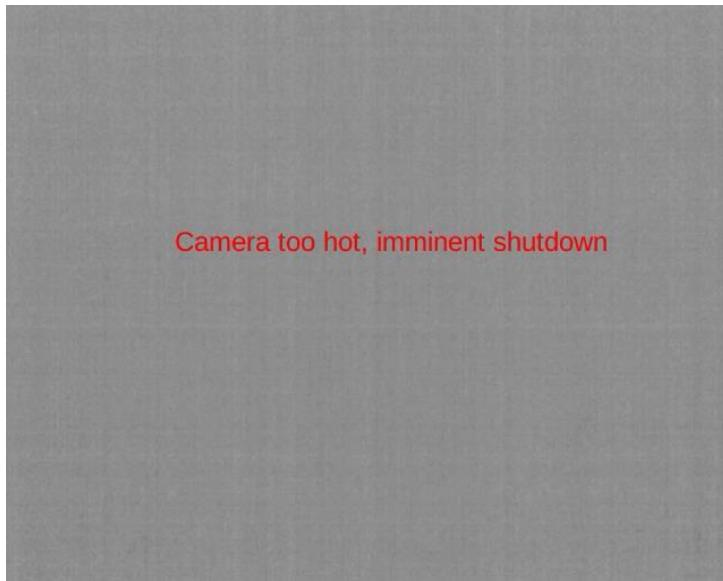

Figure 33: “Overtemp” Symbol (Factory-Default)
- Overtemp State: By factory default, the symbol shown in Figure 33 is displayed whenever the camera is in the overtemp state. (See Section 7.2 for full description of this state.)